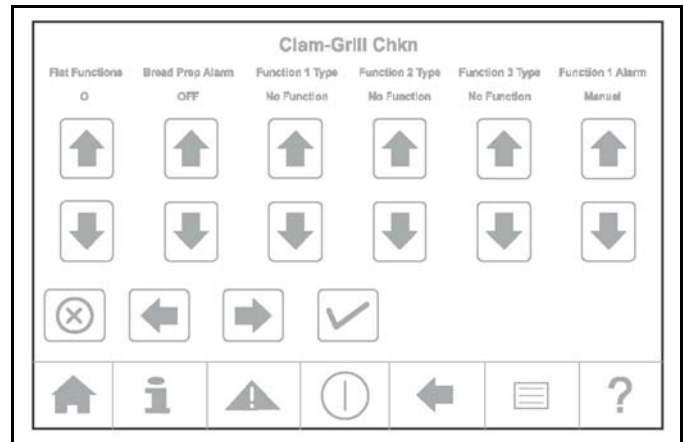

Figure-67
- **Flat Functions**–A non-clam item. See Figure-67.